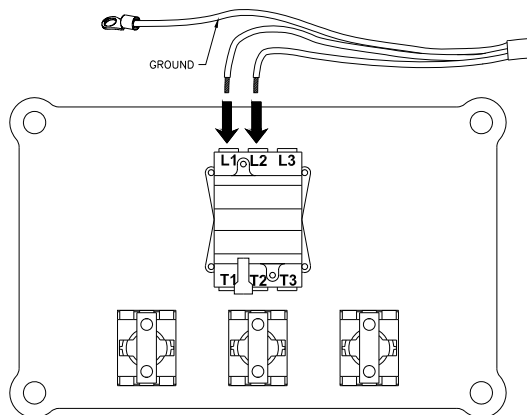

Fig. 4 – Power Supply Connection
- 11) Connect the electrical supply to the contactor (**L1** & **L2**) on the back side of the cover, **Fig. 4**. Connect the ground wire to the console below the cover.